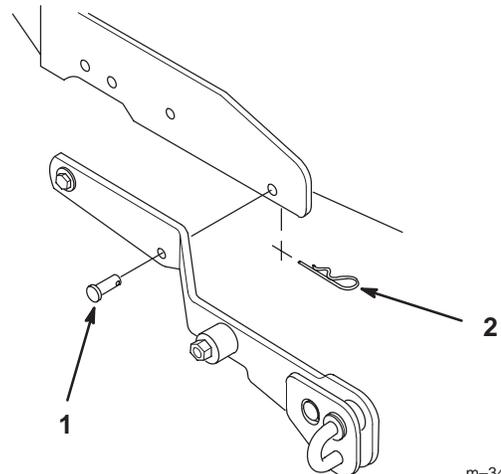

Figure 3
- If you have previously had a snowthrower, blade or tiller attached to the attachment lift, remove the two clevis pins on each side of the attachment lift (Fig. 3).